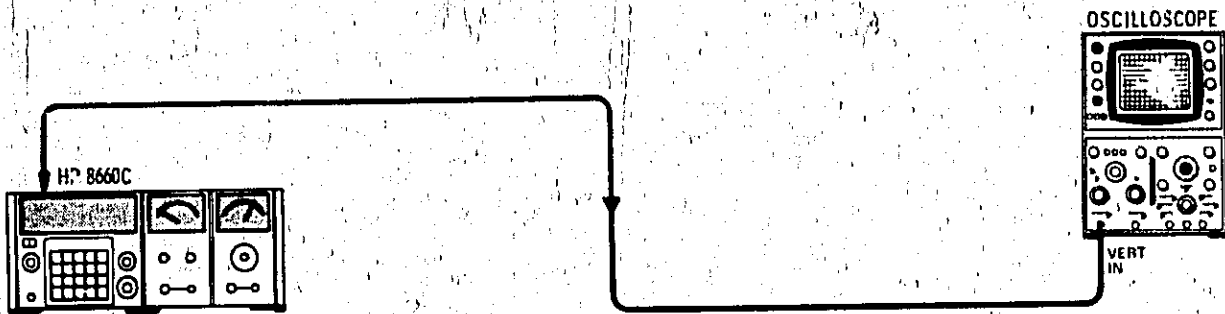

Figure 5-7. Oscilloscope Level Checks Test Setup
- a. Check the outputs listed in Table 5-4 for the levels shown (see Figure 5-7).